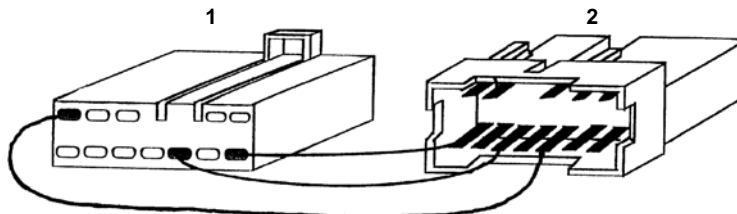

Figure 13-3 Connector and adapter for SRS system on most 1994 and earlier vehicles
- Use the HYUN-2 adapter (Figure 13-3).